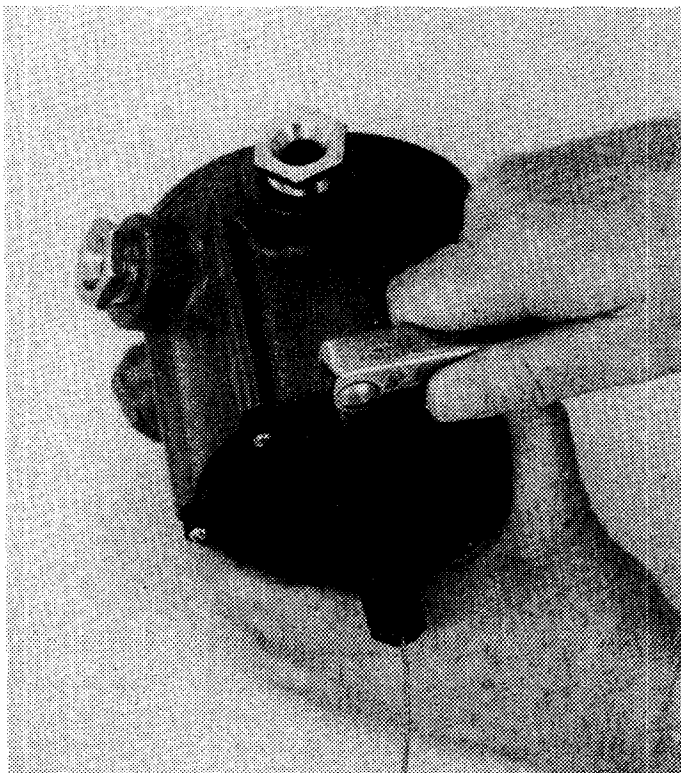

FIG. 5
1. Loosen set screw that holds spring adjusting bushing Fig 5. Set screw is socket head 1/4" stainless steel. Hex wrench is needed to loosen screw.